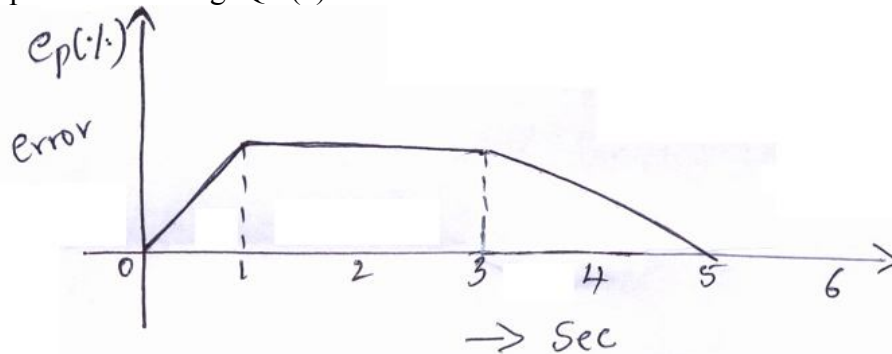

Fig. Q4 (b)
- b. PD controller has $K_p = 5.0$, and $K_D = 0.55$ and $P(0) = 20\%$. Plot the controller output for the error input shown in Fig. Q4 (b). (10 Marks)